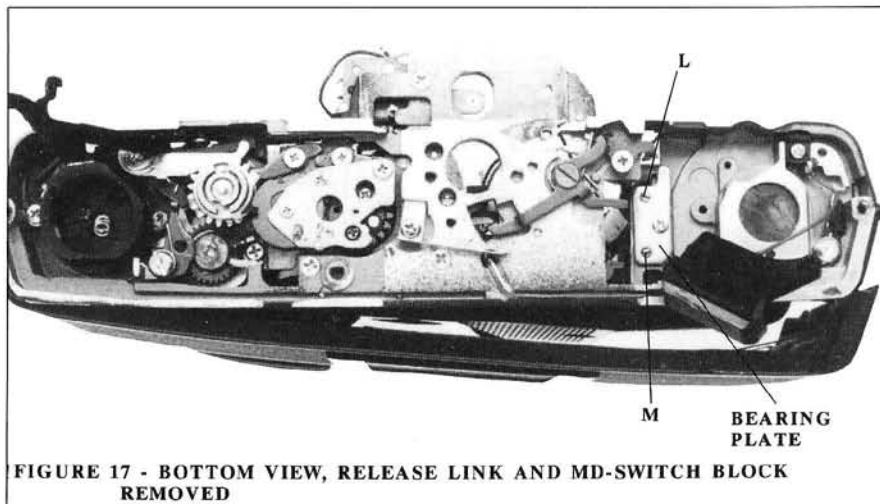

FIGURE 17 - BOTTOM VIEW, RELEASE LINK AND MD-SWITCH BLOCK REMOVED
4. remove shoulder screw from release link, Fig. 16 -- lift aside link as shown in Fig. 17
5. remove spring lever, Fig. 17 (1 shoulder screw)
6. remove transport-gear unit (#4 base plate), Fig. 17
8. remove lower bearing plate for tension rollers (S plate), Fig. 17 (1 screw)
10. remove 3 countersunk screws, bottom of body casting, that hold shutter block, Fig. 17
13. advance wind lever until the charge cam, Fig. 17, clears the bottom of the shutter block